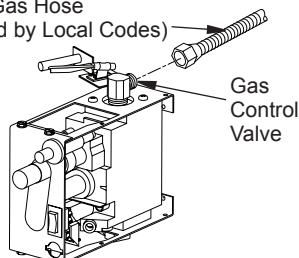

Figure 5 - Attaching Flexible Gas Hose to Gas Control Valve
1. Apply pipe joint sealant lightly to male threads of gas fitting (not provided). Connect approved flexible gas hose to inlet side of gas control valve (see Figure 5).